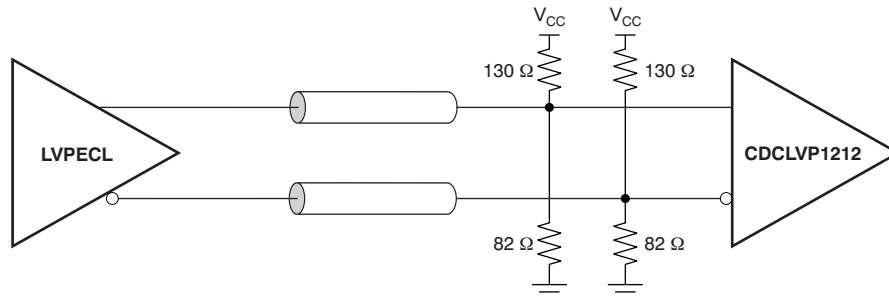

Figure 5. DC-Coupled LVPECL Input During Device Test
(1) Figure 5 and Figure 8 show dc test setup. Figure 9 shows ac test setup.